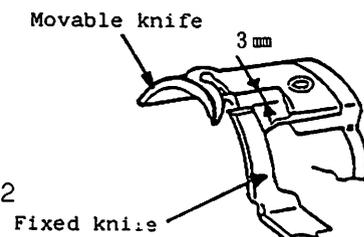

Fig. 11.12(1)
- ② To adjust knife engagement, change position of the drive crank.
(3) Adjusting the knife engagement pressure
- ① The standard knife engagement is that the movable knife starts engaging with the fixed knife when they are positioned as shown in Fig. 11.12 (1).